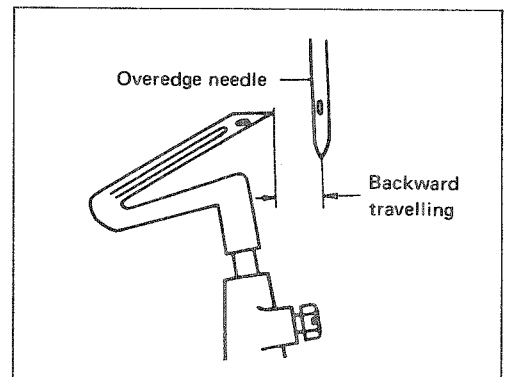

Fig. 5
c) The lower looper blade point must have a prescribed distance from the needle center as shown in Fig. 5 and Table 2 when the lower looper reaches the extreme left point.